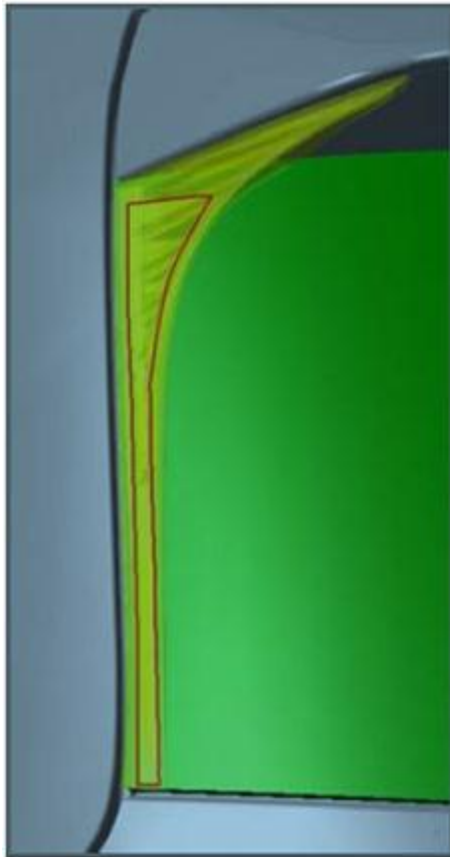

Figure 1: Primed area in yellow
4. Apply **one** layer of glass primer (**D 177.500.A1****), apply the primer in **one direction** only (Figure 1 and 2).